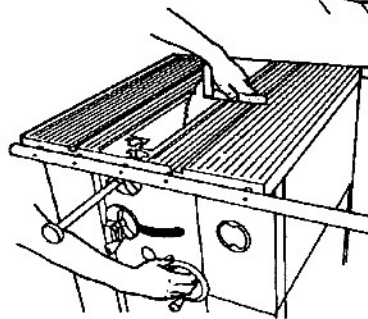
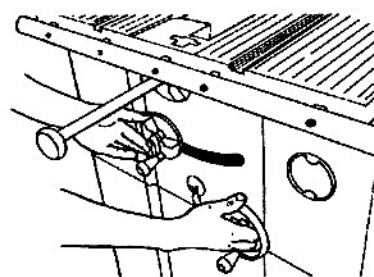

Fig. B-33
Fig. B-34
32. While holding the square to the side of the saw blade, slightly loosen the bevel lock and adjust the blade bevel until the precision square is perfectly square to the table, as demonstrated in Fig. B-33. When it is perpendicular, tighten the bevel lock, as shown in Fig. B-34.